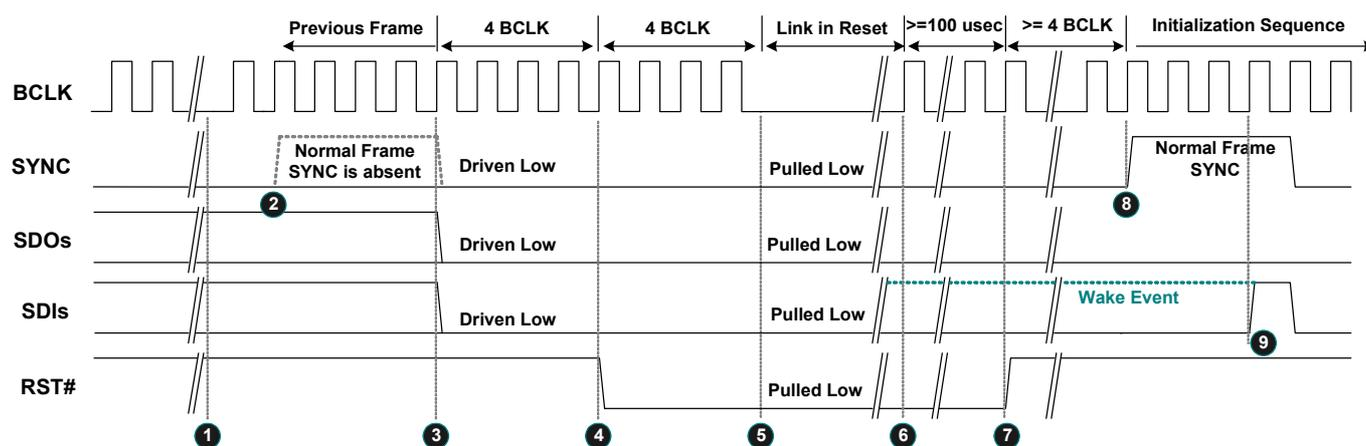

Figure 14. Link Reset Timing
3. Software initiates power management sequences. Figure 14, page 22, shows the ‘Link Reset’ timing including the ‘Enter’ sequence (❶~❺) and ‘Exit’ sequence (❻~❾)